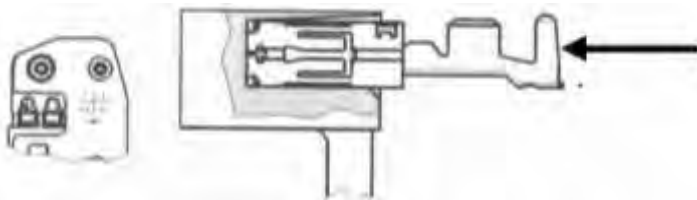

Figure 82
- (1) Insert contact to be crimped into the pliers as shown in Figure 82.